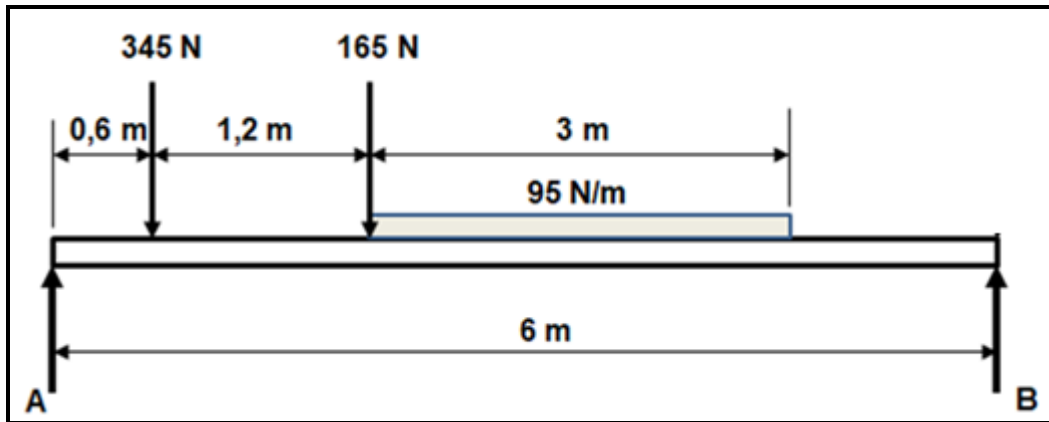

FIGURE 8.2
- 8.2 FIGURE 8.2 shows a beam supported by two vertical supports, **A** and **B**. Two vertical point loads of 345 N and 165 N, and a uniformly distributed load of 95 N/m, are exerted onto the beam.